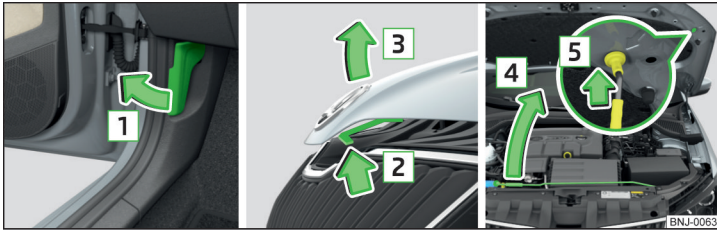

Fig. 257 Opening the bonnet
- › Open the front door and pull the release lever below the dash panel in the direction of arrow **1** » Fig. 257.